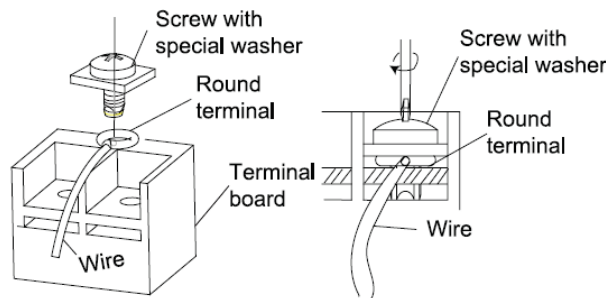

Fig.4.23
(2) For strand wiring (Fig.4.23).
- 4) Position the round terminal wire, and replace and tighten the terminal screw with a screwdriver (Fig.4.23).